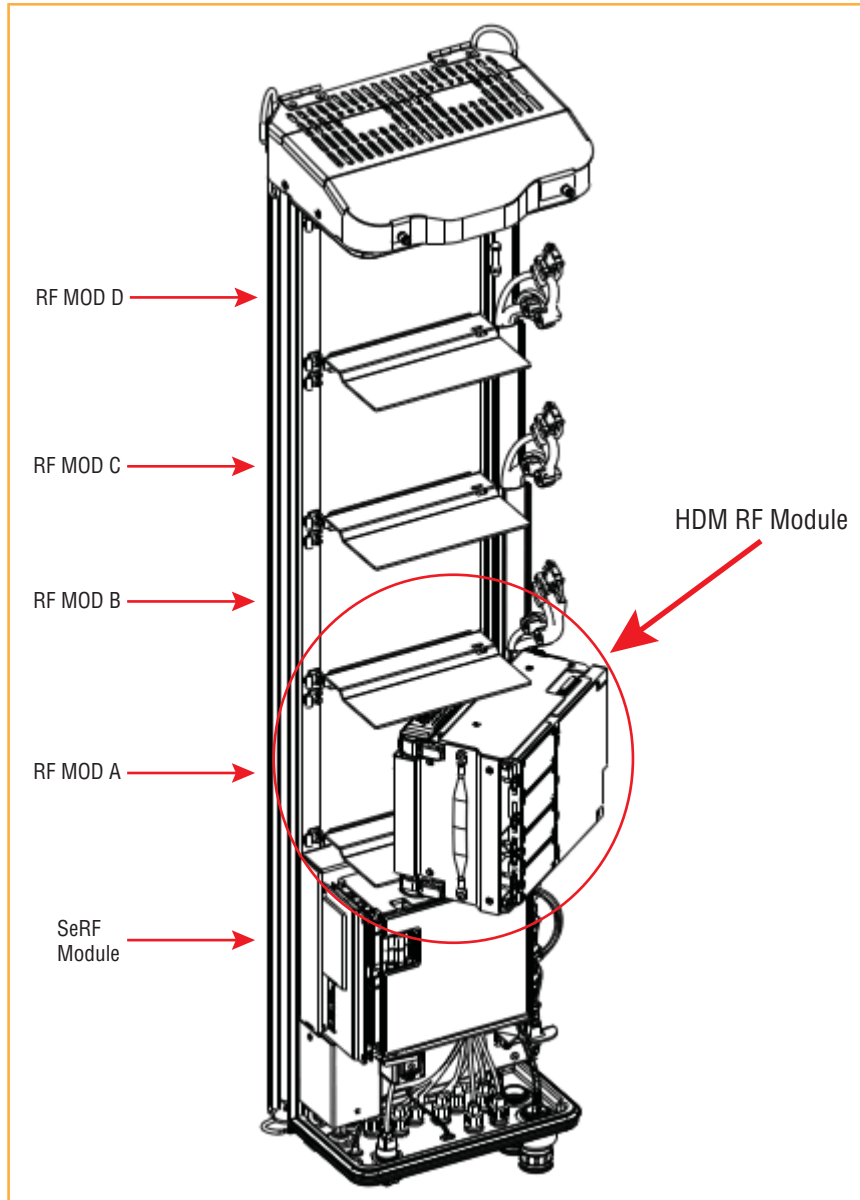

Figure 12. Installing an HDM RF Module
- HDM RF Module: Figure 12 on page 26